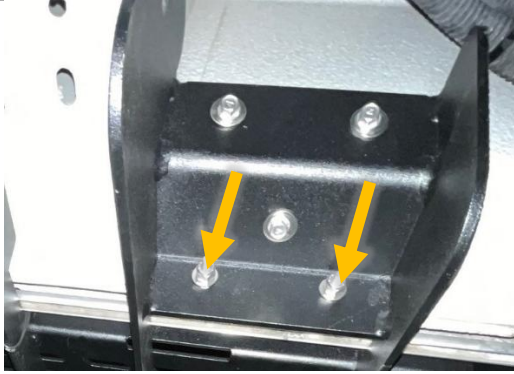

Figure 8: Pinch Weld Bolting Location
- Mark the backside of the pinch weld on the van using the pre-cut holes on the step bracket as a template (**Figure 8**). Use a center punch to center the drilled hole in the slotted hole of the bracket. Drill through pinch weld using a 1/4" drill. There are three (3) bolts in the front bracket, and two (2) bolts in middle and rear bracket for a total of seven (7) bolts.
6. Use ¼"-20 hardware to fasten each bracket to the pinch weld as shown in **Figure 8**.